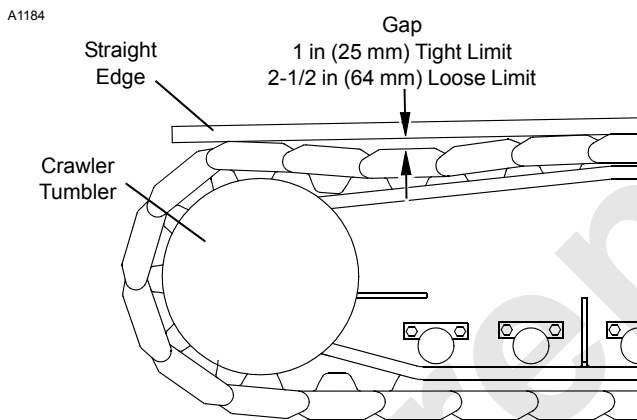

FIGURE 8-2
- Place straight edge on treads as shown in Figure 8-2. Gap between straight edge and top of treads at lowest point should be 1 in (25 mm) (tight limit) to 2-1/2 in (64 mm) (loose limit).
- Add or remove an equal thickness of shims (6) on both sides of crawler frame.
- Remove jack cylinder (3).
- Check that dimension from center punch (A) in shaft to center punch line (B) in crawler frame is same on both sides of crawler to within 1/8 in (3,2 mm).